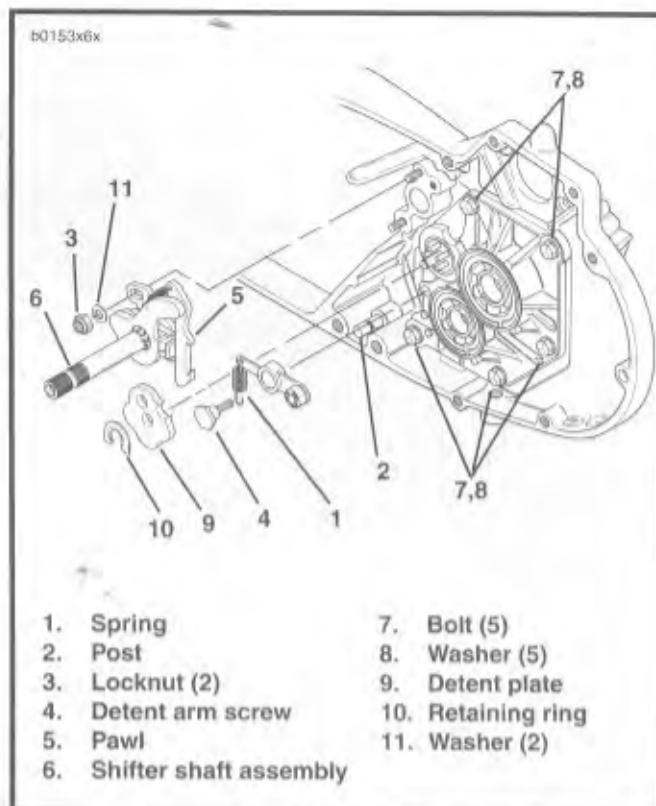

Figure 6-22. Shifter Shaft Assembly
11. See Figure 6-22. Detach spring (1) from groove in post (2).
12. Remove retaining ring (10) and detent plate (9). You will need to use a new retaining ring for installation.
13. Remove two locknuts (3) and washers (11) which attach shifter shaft assembly (6) to studs at transmission case. Remove shifter shaft assembly.
14. Remove five access door bolts (7) and washers (8). Remove transmission assembly by pulling it straight outward, away from transmission case.